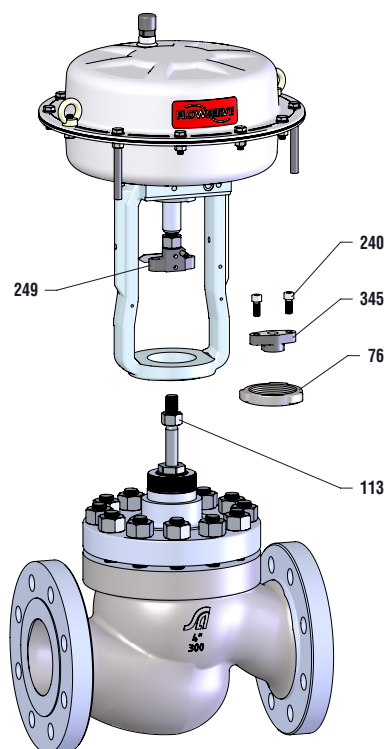

Figure 8: Remove the actuator
4. Turn the cap screws (240) counter clockwise to loosen (See Figure 8: Remove the actuator).
5. Turn the lock nut (113) clockwise to loosen. Keep actuator coupling (345) from turning by securing with a wrench.
6. Turn the yoke lock nut (76) counter clockwise to loosen.